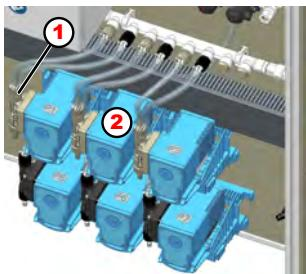

Fig. 5: Product assignments
1. → Connect the tubing hoses to the corresponding hose nipples (Fig. 5, no. 1) of the pumps (Fig. 5, no. 2) using the hose clamps supplied.